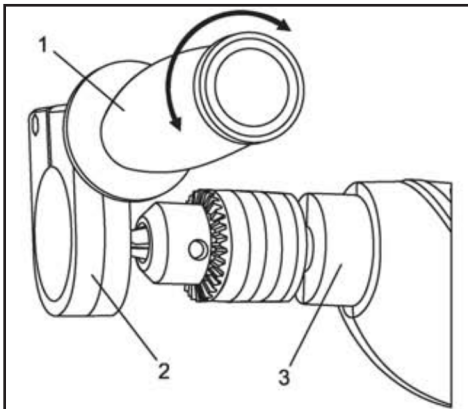

Fig.7
Install the auxiliary handle (1) for two handed operation of the drill (Fig. 7). This is particularly important for hammer drilling in concrete.
1. Rotate the auxiliary handle counter clockwise to open the mounting collar (2).
2. Slide the auxiliary handle collar over the chuck and fully onto the drill housing (3).
The workpiece to be drilled should be secured in a vice or with clamps to keep it from turning as the drill bit rotates (Fig. 7).